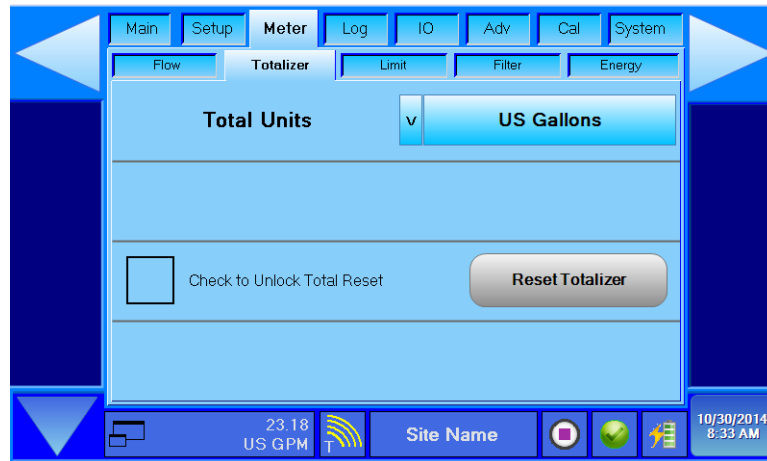

Figure 66: Totalizer setups
1. Press **Check To Unlock Total Reset** box (See *Figure 66*). A checkmark appears in the box. The *Reset Totalizer* option becomes active.